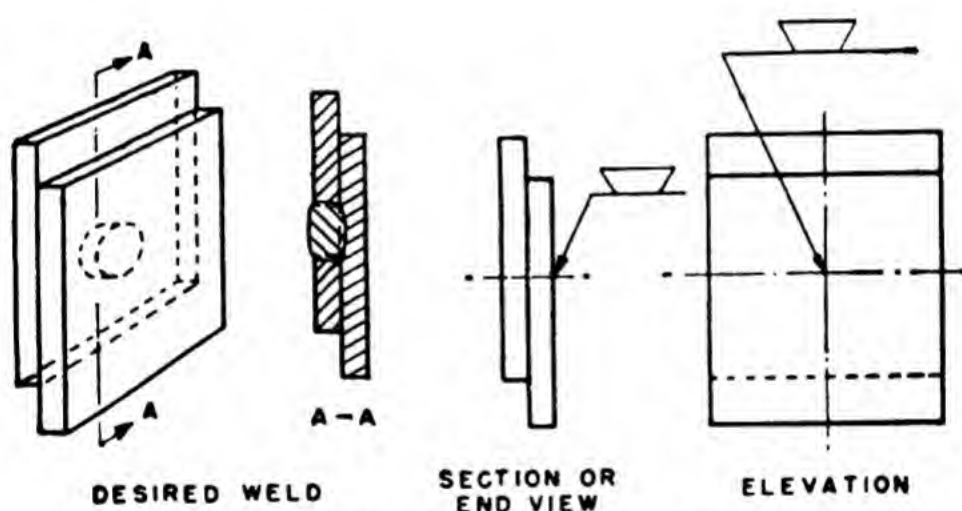

Figure 11-24.—Use of other-side plug welding symbol.
3. If the hole is in the other-side member of a joint, the weld symbol is placed on the reference line away from the reader, as shown in figure 11-24.